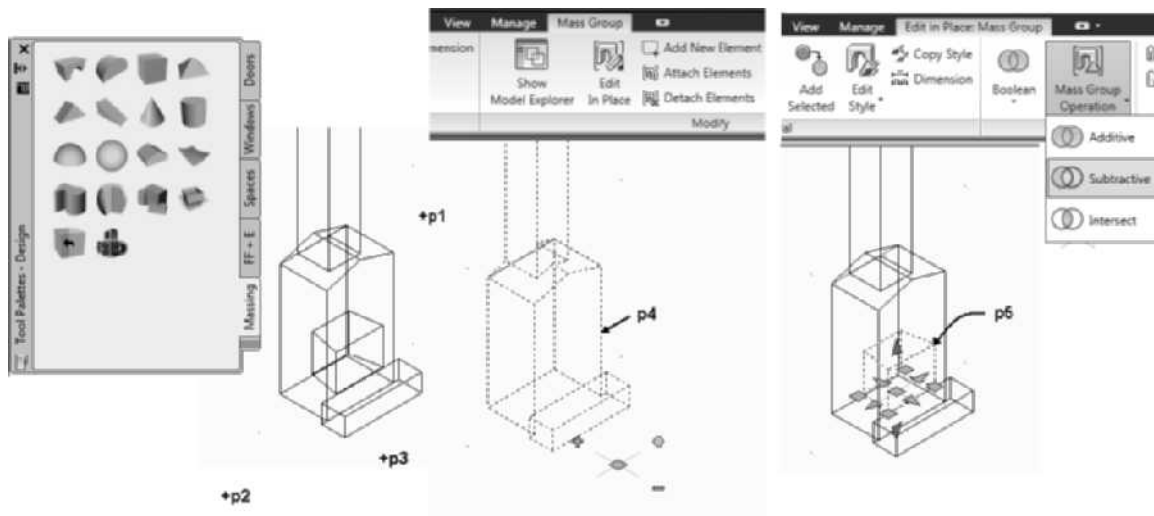

FIGURE 4.71 Creating and editing the mass group
Select elements to attach: (Select a point near p1 as shown in Figure 4.71.)
Specify opposite corner: (Select a point near p2 as shown in Figure 4.71.) 5 found
Location: (Select a point near p3 as shown in Figure 4.71.)
8. Select the **Mass Group** at p4 in Figure 4.71 to display the Mass Group tab. Choose Edit In Place from the Modify panel.
9. Select the hearth shown at p5 in Figure 4.71 to display its grips. Choose the **Subtractive** option from the Mass Group Operation flyout of the Modify panel in the Edit In Place: Mass Group tab. Choose Finish from the Edits panel to save the changes.